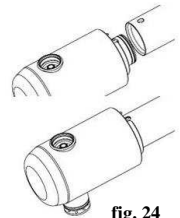

fig. 24
- Push the outlet part up to the stop onto the whipping pipe and push in locking bolt into the outlet part. (fig. 24)